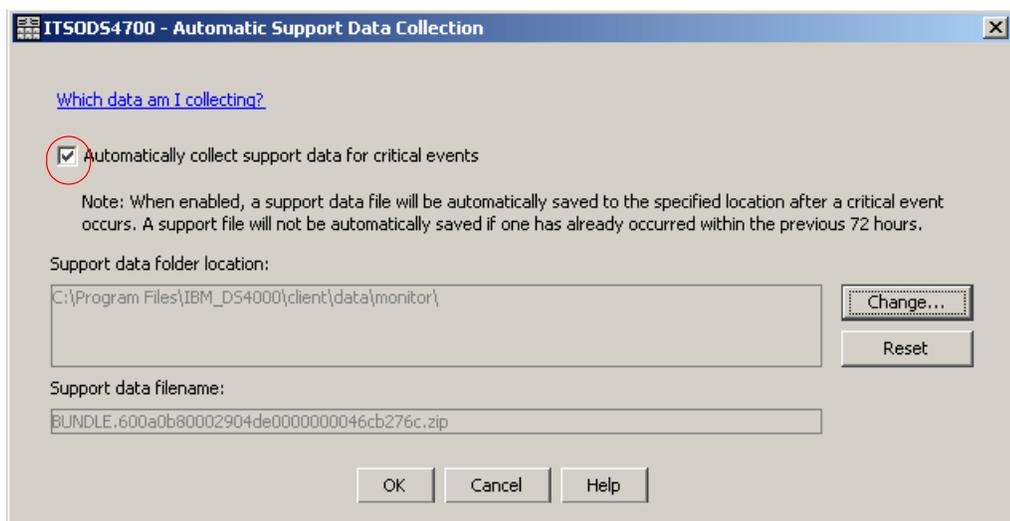

Figure 6-6 Enabling automatic data collection
2. Click the check mark to enable the automatic data collection and specify the destination folder, as shown in Figure 6-6.